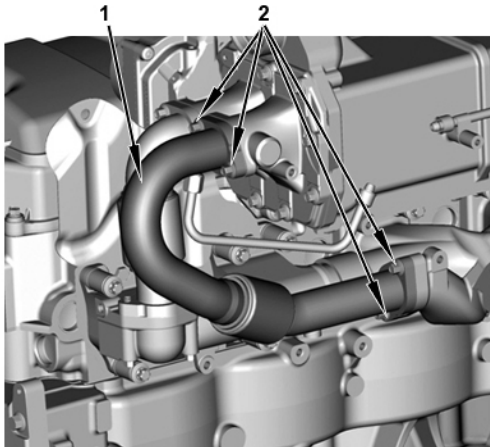

Figure 14 EGR Inlet Tube (Outside)
19. Remove EGR inlet tube (1), and remove and discard four heat-resistant bolts (2) (Figure 14).